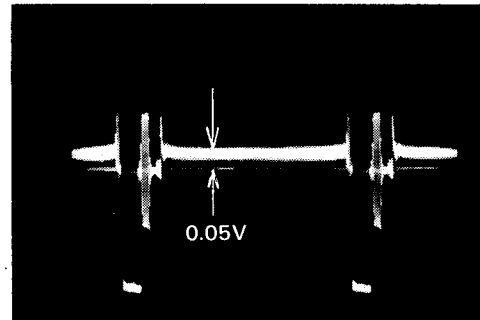

Fig 7.32 Y Setup Adjustment
- (1) Cap the lens (or close the iris control mechanism)
- (2) Connect the oscilloscope probe between the PAL-type VIDEO output and the GND terminals on the SSG and Encoder PCB (CA 3501A)
- (3) Adjust VR21 **Y SET UP** volume on the Video Process PCB (CA 1501A) until the Y setup is at 0.05V as shown in Figure 7.32.
- (1) Remove the lens cap to focus on the grey-scale pattern, full pattern, and effect the procedure detailed in Section 7.2.7.1 (TP-1 = 0.6V)
- (3) Adjust VR11 **AGC** volume on the Video Process PCB to set AGC at 1V p-p as shown in Figure 7.32
- (4) Alternately, turn the AGC switch ON and OFF to check the 1V p-p.